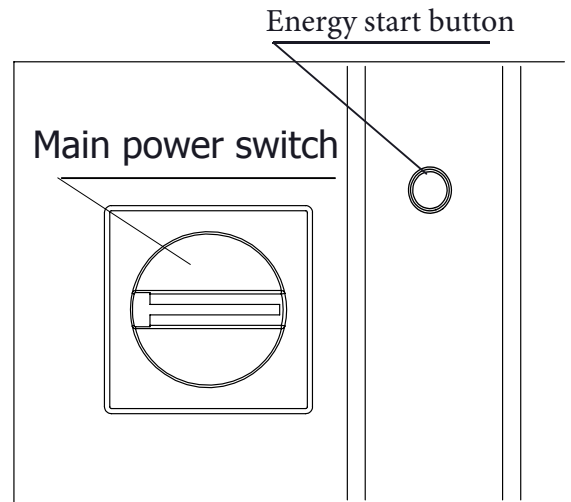

Figure.15
- a) Control that switch of the machine is open. (Figure.15)
- b) Control light of energy start button is open. (Figure.15)